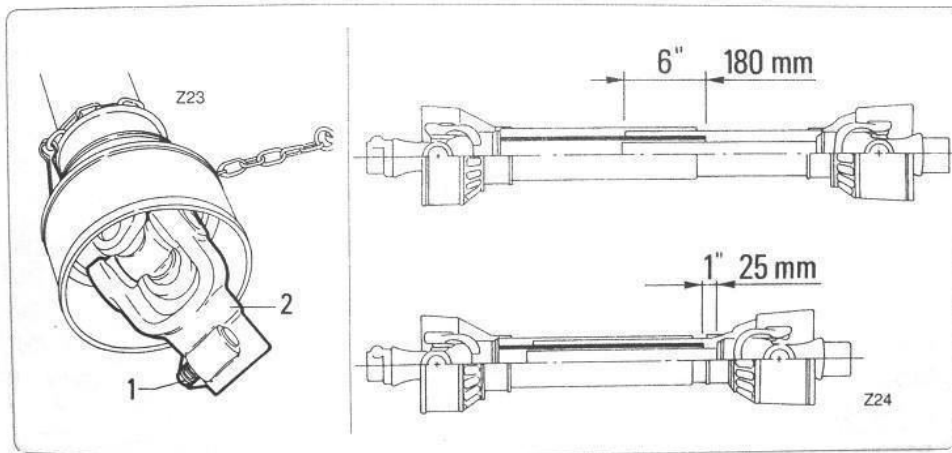

fig. 4.2.3
- Check that the driveline is the correct length fig. 4.2.3.
See fig. 4.2.3.
To achieve this condition, completely insert the pins and safety bolts "1" fig. 4.2.3 into the relative grooves in the pto shafts on both the tractor and machine sides.